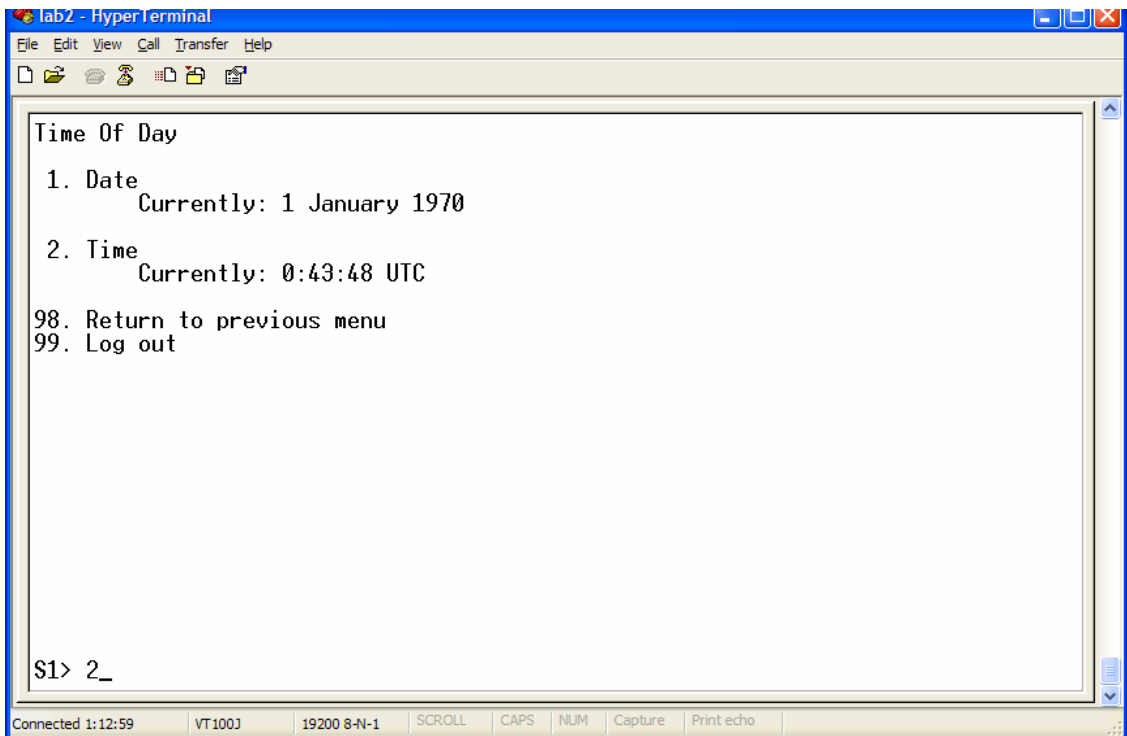

Figure 27. Updating the time of day for the system configuration
- b. Select option **2 (Time)** to update the time of day (see Figure 27).